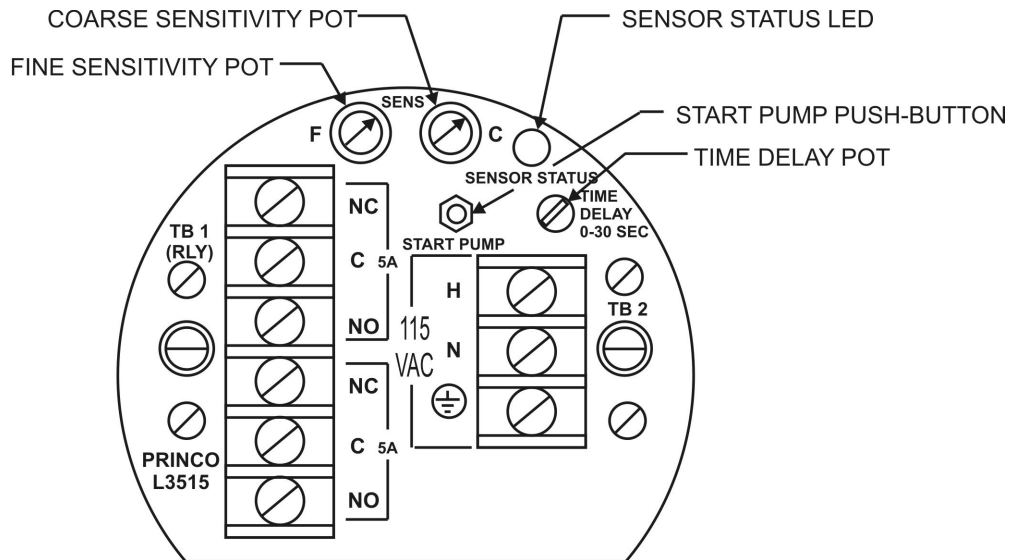

Figure 4-1. L3515 Adjustment and Indicator Locations
1. Refer to Figure 4-1 for L3515 adjustment and indicator locations.
- a) Refer to Figure 4-1 for adjustment and indicator locations. Refer to figure 4-2 for a pictorial outline of this procedure.
- c) Preset Coarse (C) and Fine (F) sensitivity (SENS) potentiometers to mid-point positions (12 o'clock).
- f) With the pipeline and Sensor Flange completely empty (coated from step e), adjust the Coarse (C) sensitivity such that the SENSOR STATUS LED "just turns" green. Mark the Coarse (C) pot screwdriver slot or mentally note its position.
- a) Refer to Figure 4-1 for adjustment and indicator locations. Refer to Figure 4-3 for a pictorial outline of this procedure.
- c) Preset the Fine Sensitivity pot (F) full clockwise and the Coarse Sensitivity pot (C) to the full counter-clockwise position.
A single turn TIME DELAY pot is provided (see Figure 4-1). Many applications require no time delay. In this case, adjust the TIME DELAY pot to the maximum counter-clockwise direction (zero time delay).